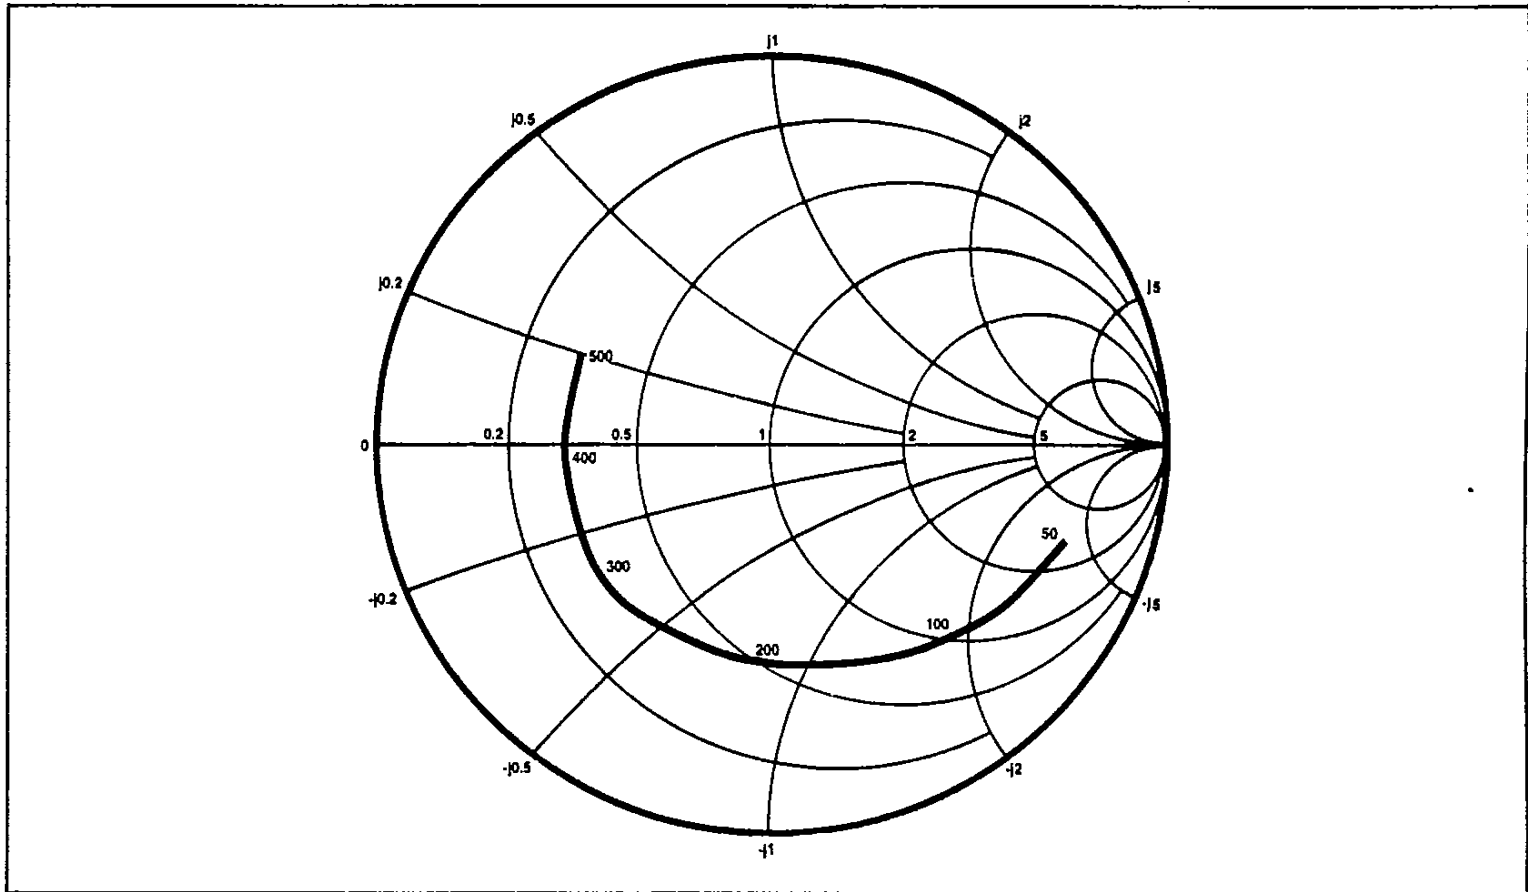

Fig.5 Typical input impedance. Test conditions: supply voltage -5.2V, ambient temperature 25° C, frequencies in MHz, impedances normalised to 50 ohms.
6. Input impedance is a function of frequency. See Fig. 5.